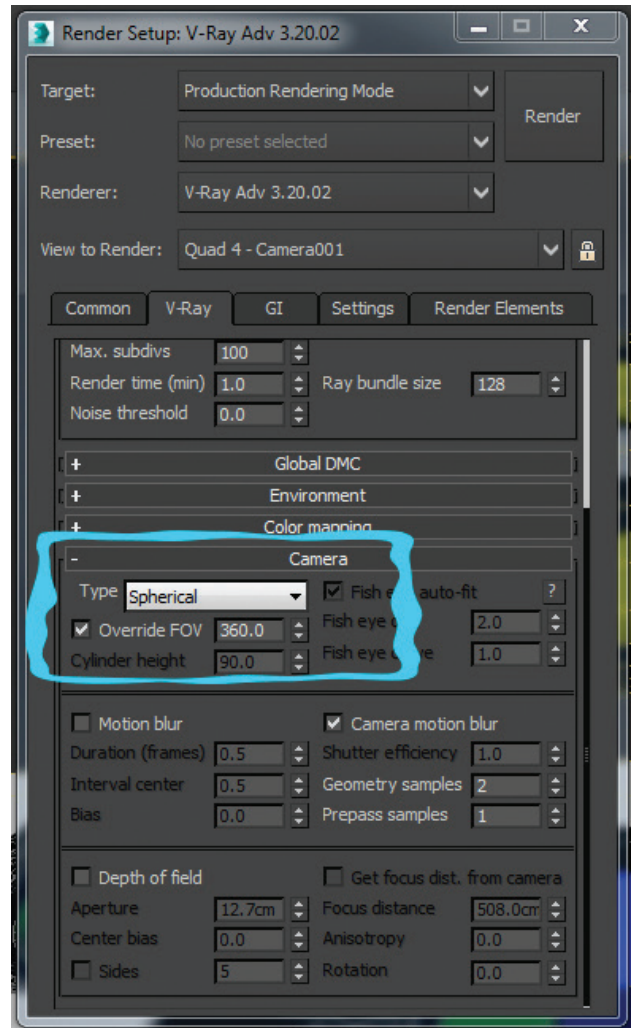

Figure 4: Step Two
**Step Two.** Expand the Camera category and select the Spherical type. Override the FOV (Field of View) for the entire 360 degrees. See Figure 4 for example.